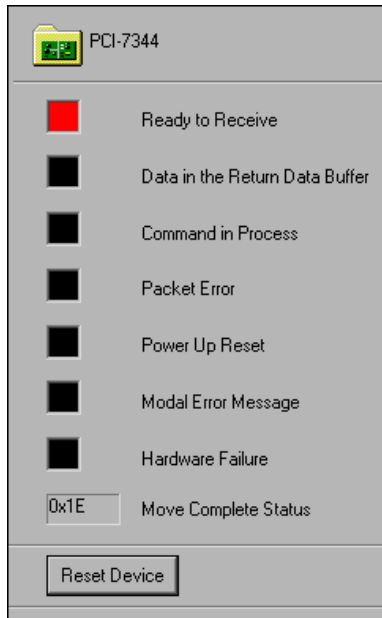

Figure 4-3. Status Tab
- The **Status** tab displays the status of the different bits in the communication status register of the controller, as shown in Figure 4-3. You also can reset the motion controller from this tab.